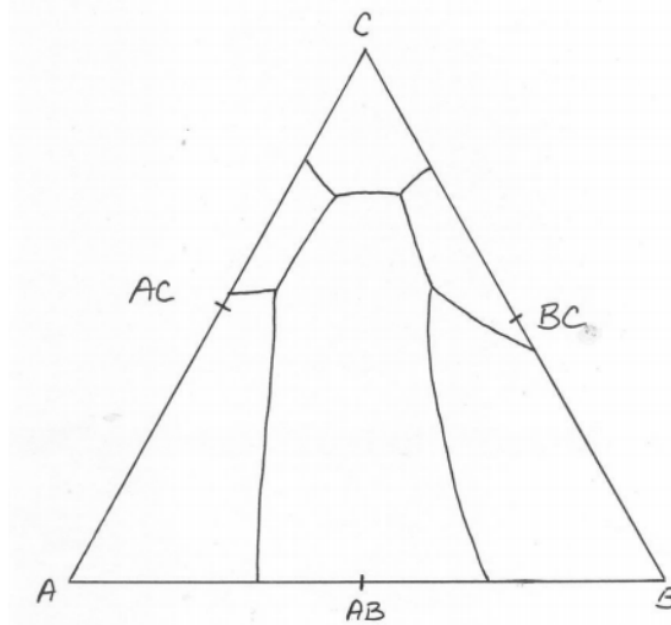

Figure 1.6: Liquidus projection diagram.
- 8) On the liquidus projection diagram for the hypothetical system A-B-C shown in Figure 1.6), complete the following: